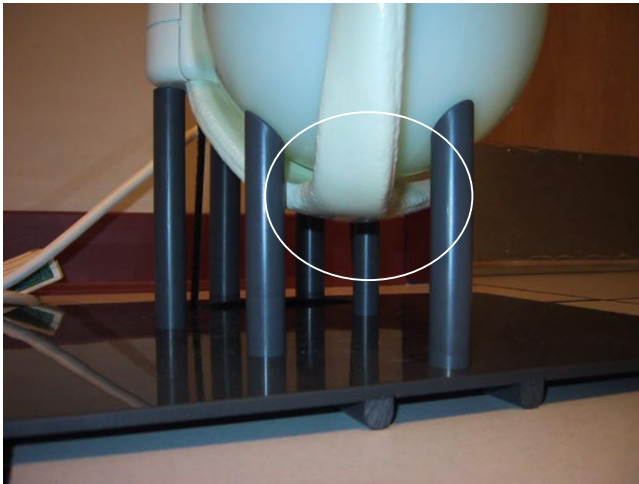

Figure 9: INCORRECT – Coil element IS NOT touching the phantom positioner pole.
- To avoid SNR dispersion, the coil element should touch to the phantom positioner pole (see *Figures 9 and 10*).